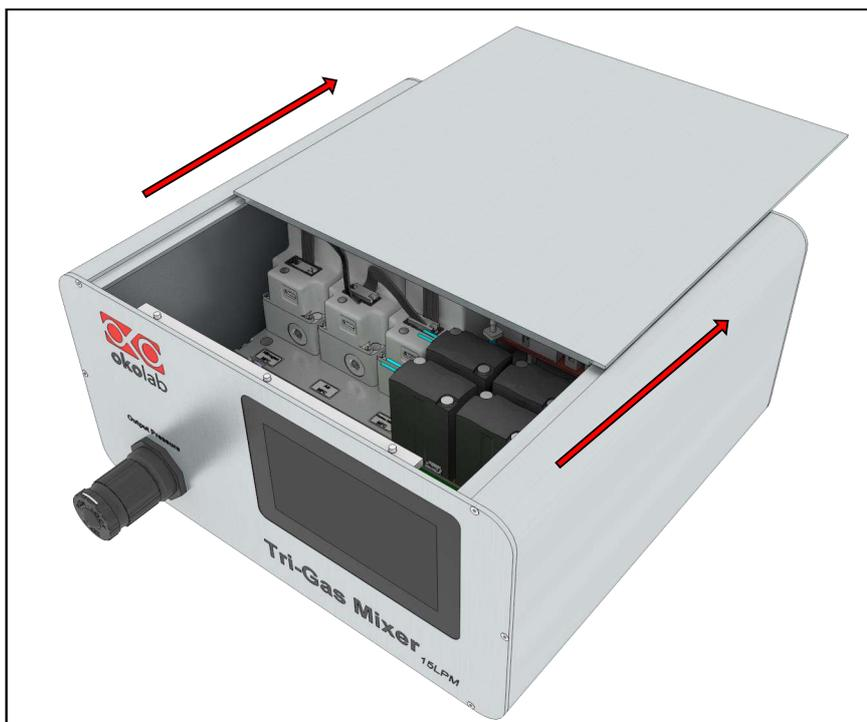

Figure 129. Cover removal.
2. Slide and remove the cover of the Tri-Gas-Mixer (see Figure 129).